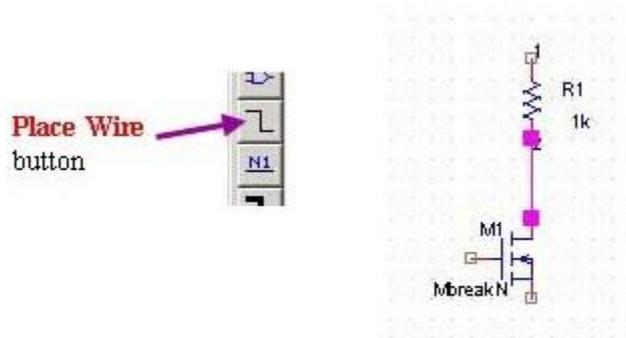

Figure 14
- After you add all components that you need to the project, you should wire them to each other as shown in the figure 14.